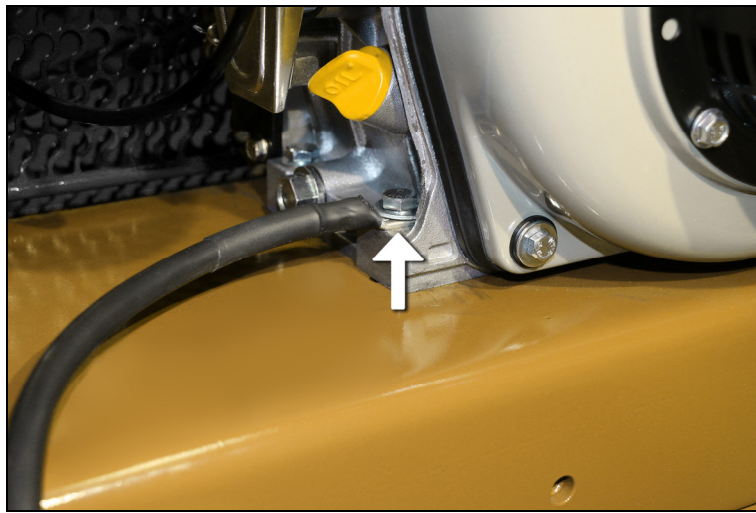

Figure 5-2 Battery Negative (-) Cable Connection to Engine Mounting Bolt
- (b) Connect the battery negative (-) cable to an engine mounting bolt, frame bolt, or other good engine ground connection as shown in Figure 5-2.